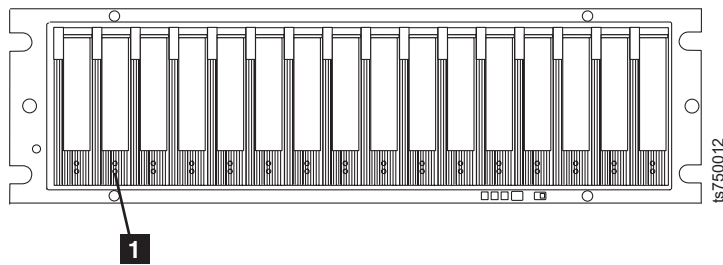

Figure 54. Drive fault LEDs
2. ___ Ensure that no drive fault LEDs (**1** in Figure 54 on page 70) are lit on any cache component. If any fault lights are lit, refer to the *Checking the LEDs* section of the *IBM Virtualization Engine TS7500 Problem Determination Guide*